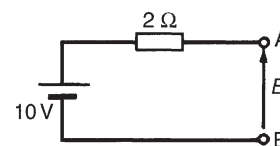

Figure 13.29
- The open-circuit voltage,  $E$ , across terminals  $AB$  in Fig. 13.29 is equal to 10 V, since no current flows through the  $2\Omega$  resistor and hence no voltage drop occurs.